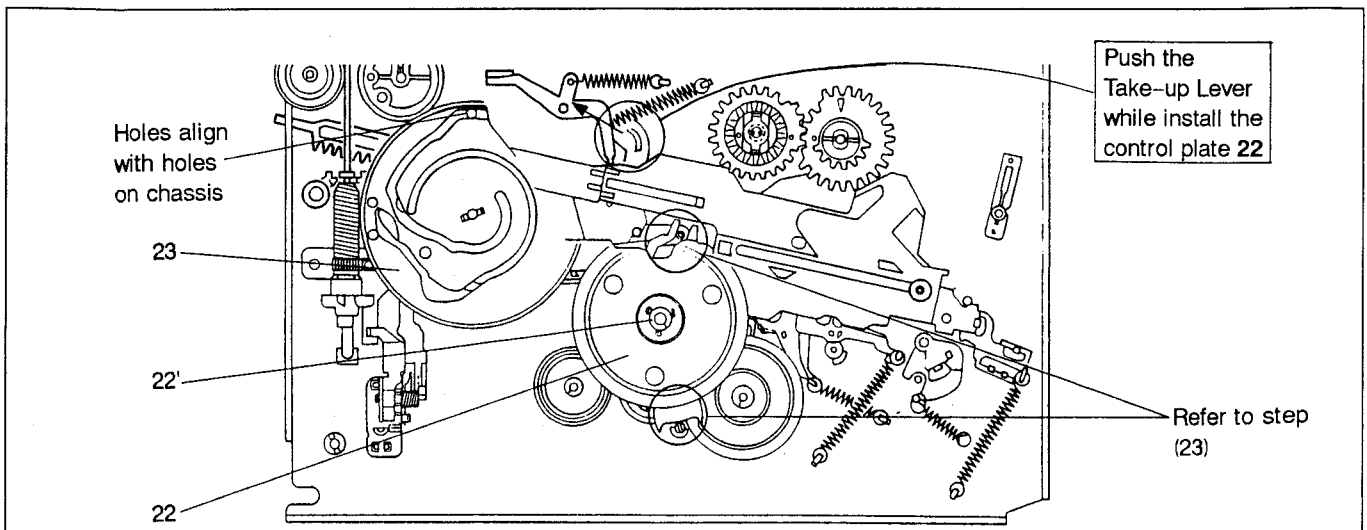

Fig. 2-4-13
22) Push the Idler Cancel Lever while install the Center Gear Unit and the slit washer (22') (see Fig. 2-4-13) with careful attention to the studs of the Idler Cancel Lever and the chassis so that both the studs are correctly set in the upper and the lower grooves of the Center Gear Unit respectively.